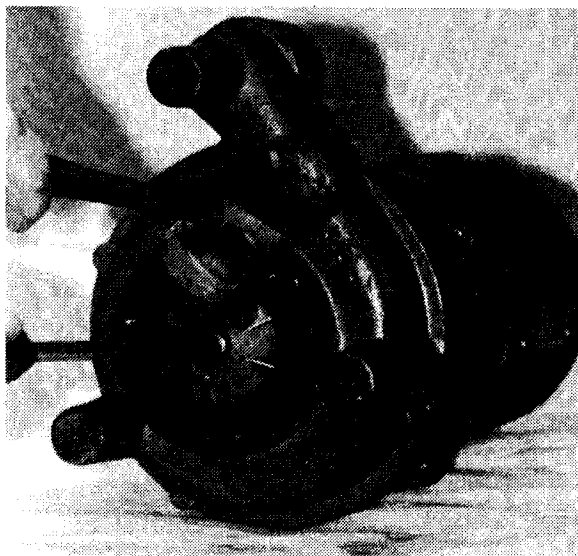

FIG. 4
5. Bump impeller vane counter-clockwise with plastic hammer to loosen impeller and continue to unscrew impeller from shaft. See Figure 4.